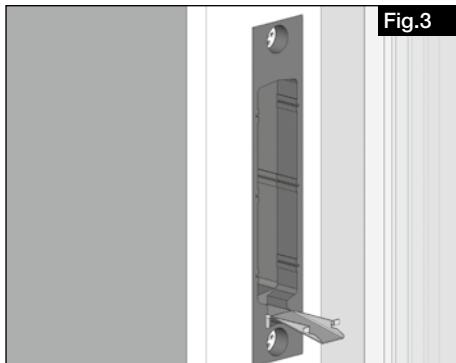

Fig.3
2. Insert the condensate discharge plate in the plaster frame (see Fig. 3).